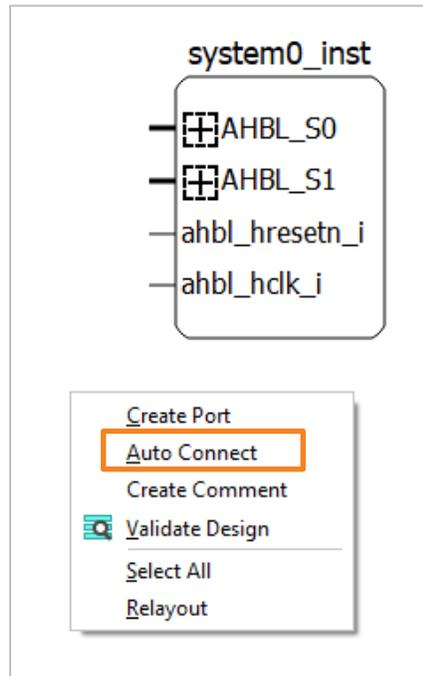
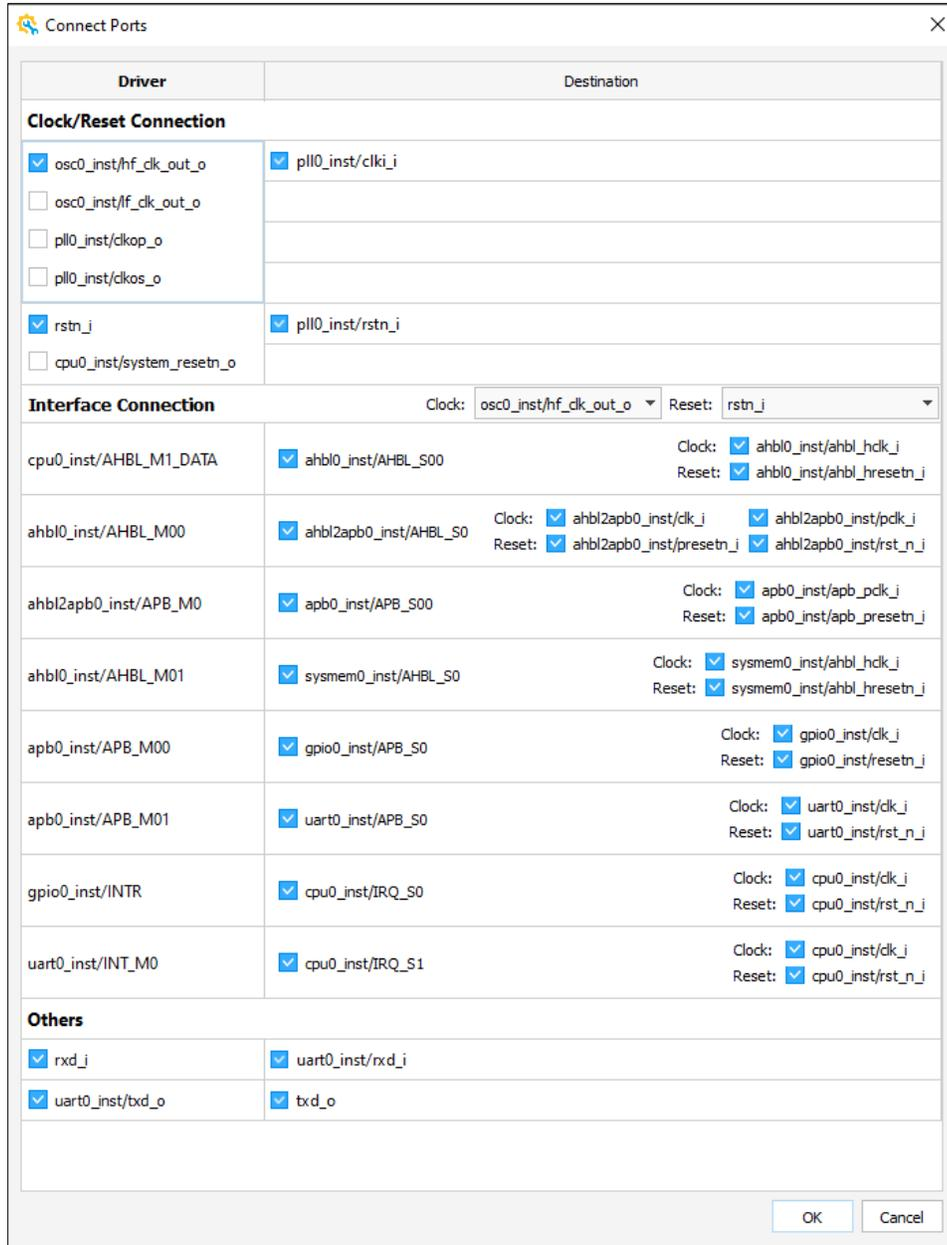

Figure 2.76. Action Menu of Right-clicking on a Blank
Figure 2.77. Action Menu of Connecting Ports
1. Right-click on Schematic view and choose **Auto Connect** (Figure 2.76). The Connect Ports dialog appears (Figure 2.77).
2. By default, **Auto Connect** selects all ports. You can also deselect the interface/clock/rest pins that you do not want to auto-connect (Figure 2.77).